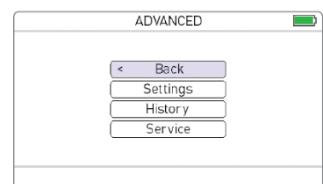

Figure 46. Advanced
1. At ADVANCED (see figure 46) select Service with .